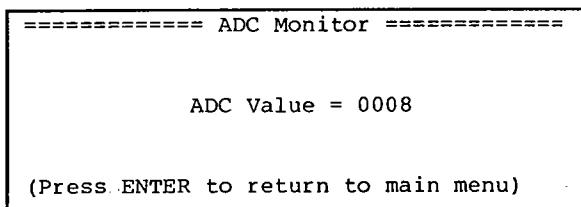

Fig. 5-3
1. Select "2) ADC Monitor" by pressing the DATA ENTRY key. Then the LC-display will change as shown below indicating that the unit enters the OFF-SET adjustment mode. (Refer to Fig. 5-3).